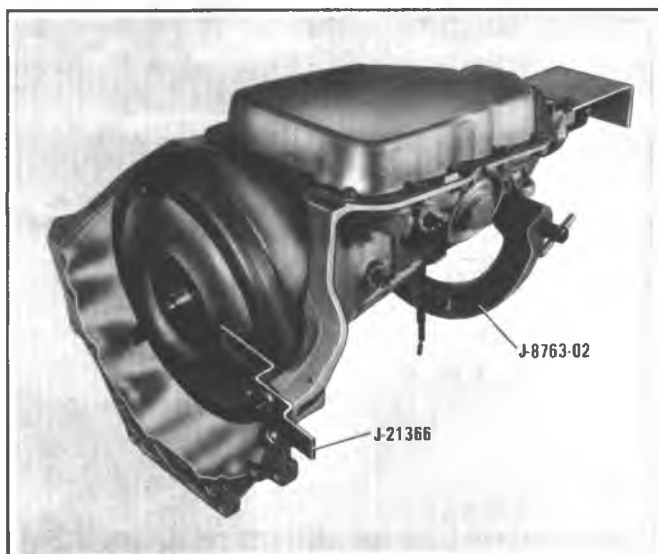

Figure 7A6-4 Transmission in Holding Fixture
2. Install Holding Fixture, J-8763-02, on transmission and place into Holding Fixture, J-3289-20, with manual shaft facing bench and oil pan side up (Figure 7A6-4).